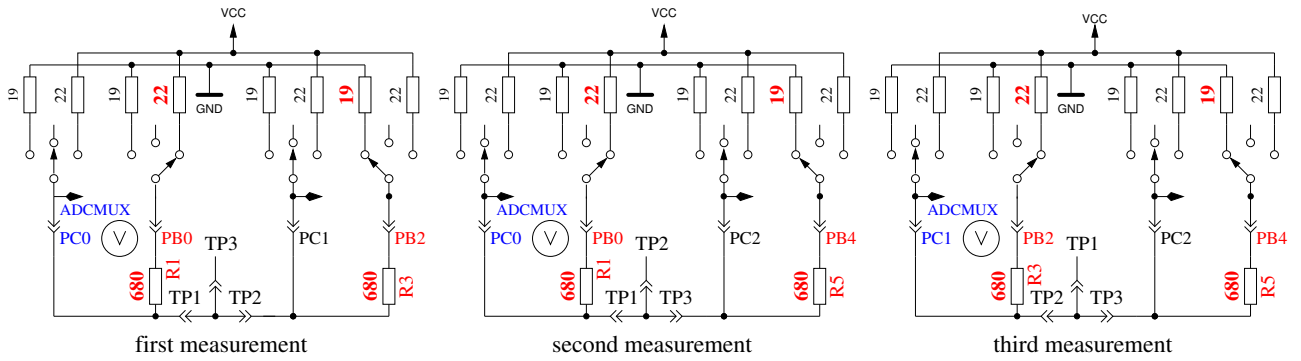

Figure 5.55. Comparison of 680Ω resistors
2. **Comparing of the 680Ω resistors.** In row 1 the cryptic text "+RL- 12 13 23" is shown. Meaning of this is as follows: The RL is the short form of Resistor Low meaning the 680Ω resistors. The 12 stand for: resistor at pin 1 is connected to VCC (+) and resistor at pin 2 is connected to GND (-). The result of this measurement is displayed in row 2 at the first place as difference to the theoretical value. In row 1 follows now a "13" which means, that the first connection of measurement 1 is still connected with 680Ω to VCC but that the resistor of pin 3 is connected to GND. The result is displayed in the middle place of row 2 as difference to the theoretical value. The last measurement of this test "23." means that now the resistor at pin 2 is connected to VCC (+) and the resistor of pin 3 is connected to GND. The result of measurement is displayed at the last place of LCR row 2 as difference to the theoretical value. Please remember, that the resolution of the ADC is about 4.88mV! The measurement situation is also shown in figure 5.55. The theoretical value with respect to the internal resistance of the pins should be: